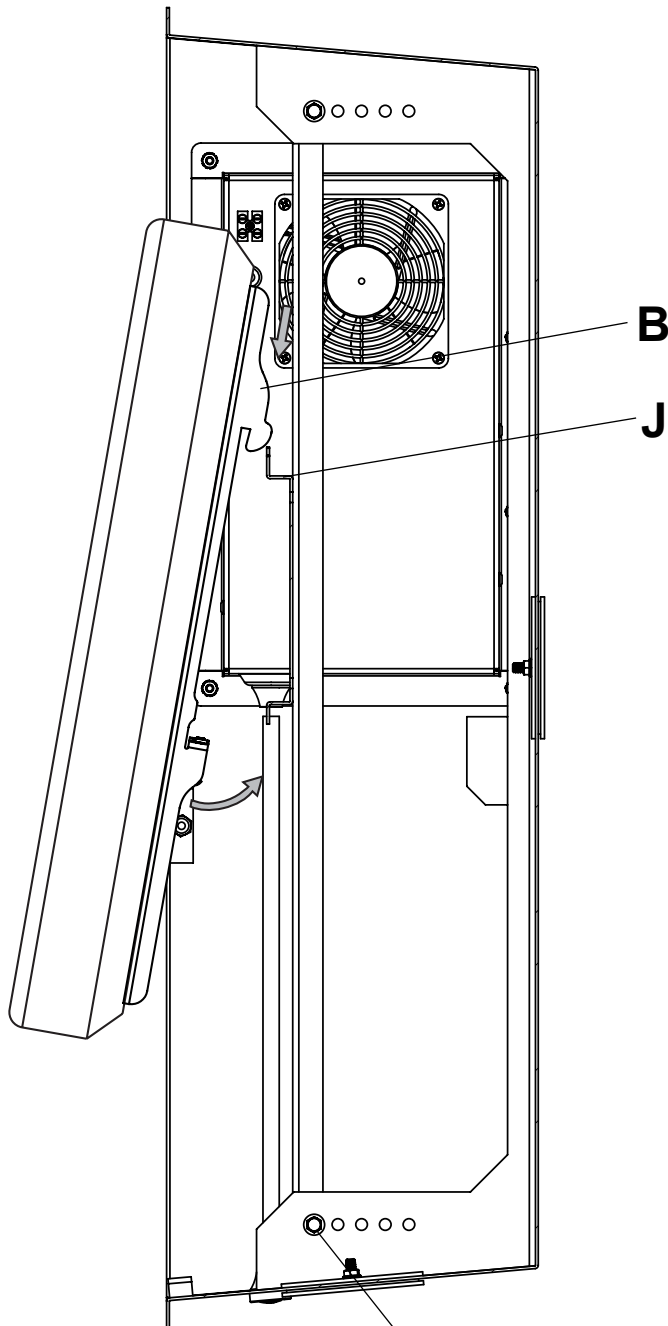

fig. 7.1
- 7** Hook adapter brackets (**B**) onto wall plate (**J**) then slowly swing display in as shown in figure 7.1. Remove 3" serrated washer head screws from bottom of rear supports.